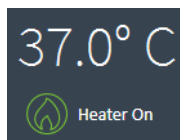

Figure 11. Temperature widget
- 1 Click the Temperature widget. (See **Figure 11**.)
- 1 Check the **Alarm On** check box in the Tray Temperature window. (See **Figure 11** on page 31.)